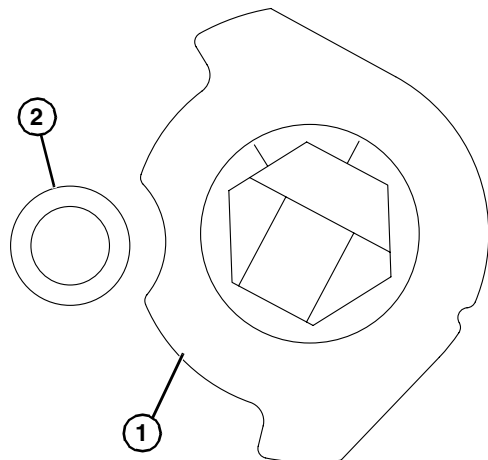

Figure 19
3. Hex shaft assembly will need to be rotated (**Figure 19**) for stop keys (**Figure 19, item 1**) to pass by the frame stops (**Figure 19, item 2**).